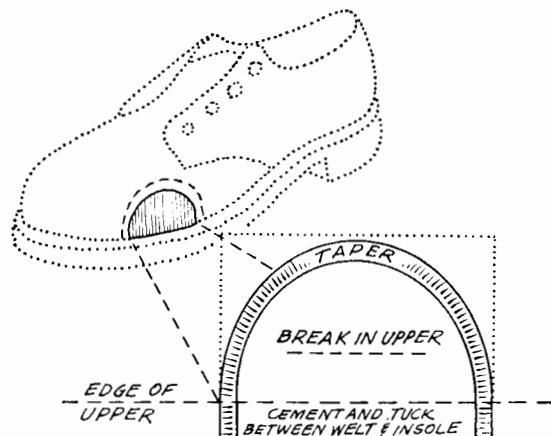

Fig. 152. Patching near the sole.
3. Skive, or taper, the rounded side of the patch (Fig. 152).